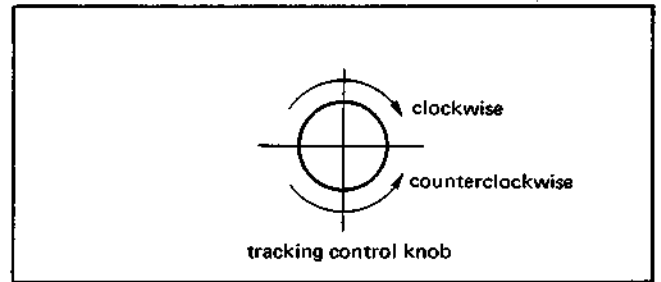

Fig. 4-6 Counterclockwise
- (1) Turn the knob in either the clockwise or counterclockwise direction to make the waveform 4cm. (Fig. 4-6)